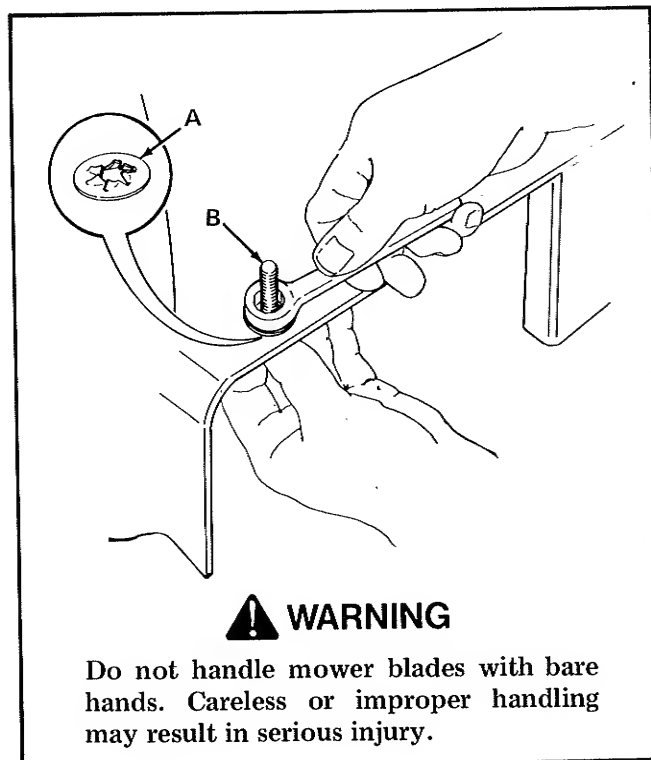
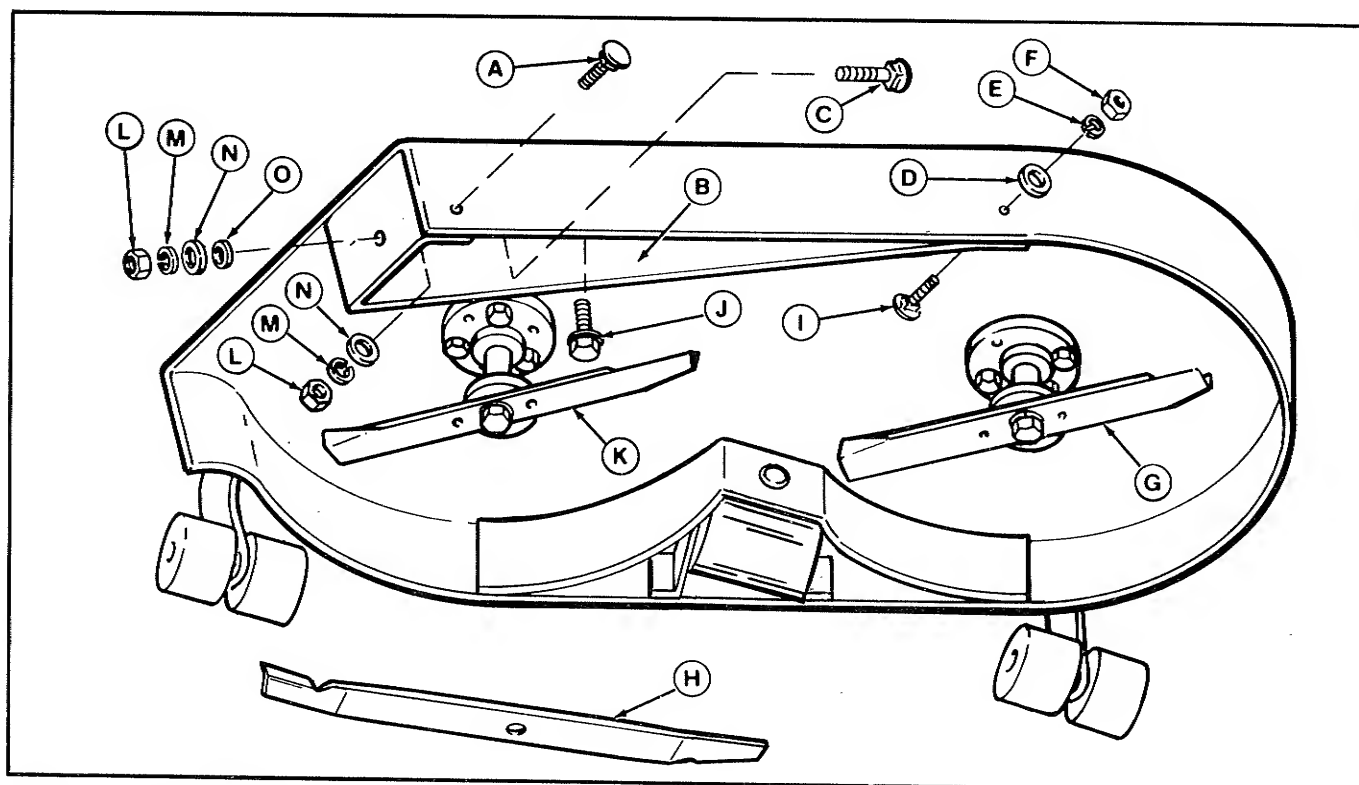

Figure 8. Install Pushnuts
Figure 9. Install Baffle
- Place discharge baffle (B, figure 9) in mower as shown. Use a self-tapping screw (J) to secure midpoint of baffle.
- Use carriage bolt (I), washer (D), lockwasher (E) and nut (F) to secure inner end of baffle.
- Use carriage bolt (A), washer (N), lockwasher (M) and nut (L) to secure outer end of baffle. Install carriage bolt from the outside as shown.
- Insert remaining carriage bolt (C) supplied with grass catcher through hole in end of discharge baffle. Install a pushnut (O) on outer end of this bolt. To install a pushnut, use a box wrench to push the nut fully down on the bolt threads so it holds the bolt to the mower (figure 8).